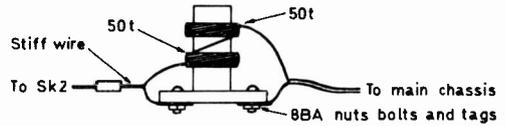

Fig. 7: Video choke: use 28 s.w.g. enamelled wire.
- L12 See Fig 7.
It has been found advantageous to use a series video choke L12 in the output from the i.f. strip (this was not shown in Fig. 2 last month). This consists of two pile-wound sections of 50 turns each wound on a 1/4 in. former as shown in Fig. 7. The coil cannot be fitted in the i.f. strip so it is built on to the plug and socket carrying the video signal out of the strip. The choke should be fitted as near to the i.f. strip as possible and this simple arrangement satisfies this condition. Because of the excellent video response within the i.f. strip and the action of